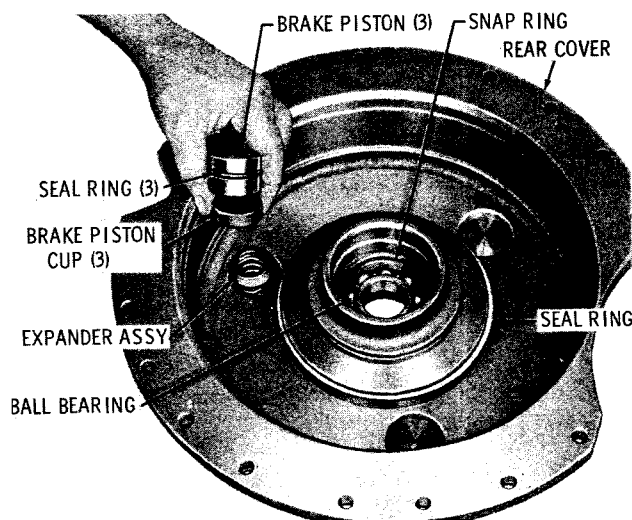

Fig. 6-25. Installing brake piston components in TTB model rear cover
(2) Lubricate the brake piston components with hydraulic brake fluid prior to installation in their bores. Install the three expander assemblies, brake piston cups (flat side upward) and brake pistons (flat side first), with sealrings assembled, into the three bores in the rear cover (fig. 6-25).
(3) If the Teflon sealing was removed from the inner hub of the rear cover, install a new sealring, outer lip upward, into the groove in the inner hub (fig. 6-25). Install the bearing and snapping into the rear cover.